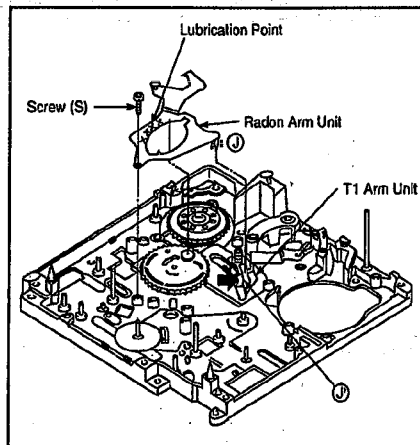

Fig. M26
- Fig. M26 Unscrew screw (S) and remove Radon Arm Unit.